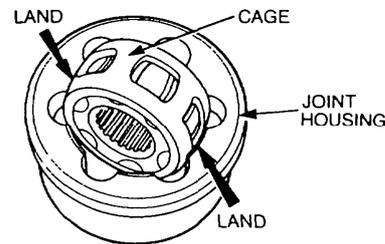

Figure 120 Constant Velocity Joint Cage Removal
- f. Swivel the cage to line up with the axis of the constant velocity joint (Figure 120).
- c. Position the cage on the constant velocity joint (Figure 120).